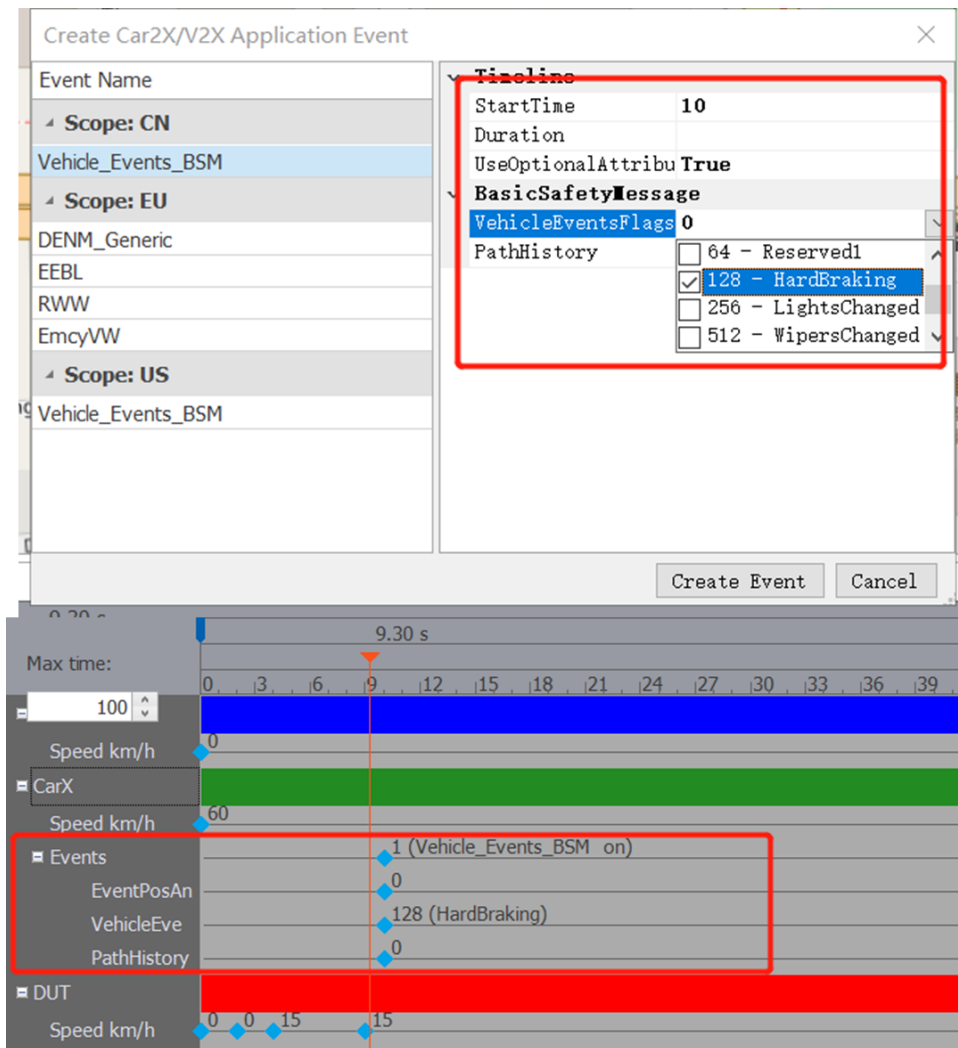

Figure 16: Edit events parameter
- If CarX is required to send event data (for other V2V communication scenario simulation), the message attributes can be added by right-clicking on the vehicle in the timeline window. Figure 16 shows: at 10 seconds, CarX sends an alarm event message;